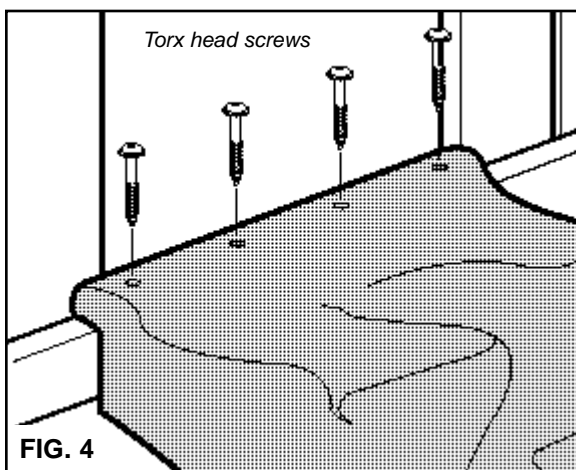

FIG. 4
5. Place the top of the wall in front of the opening of the climbing unit. Align the right side of the wall with the right side of the opening of the unit. **Note:** The edge of the wall should be firmly positioned against the climbing unit (see Fig. 4). **Do not attach the wall at this time.**
9. Reposition the wall in the opening of the climbing unit. Align the right side of the wall with the right side of the opening of the unit. The edge of the wall should be firmly positioned against the climbing unit and the stakes should be inside the base of the wall. Secure the wall to the rail using four Torx head screws as indicated in Fig. 4. **Note:** Use the included Torx Head bit and an electric drill to drive the screws into the rail. Secure the base to the stakes using one 1-1/4" panhead screw and washer per joint (see Fig. 5A).